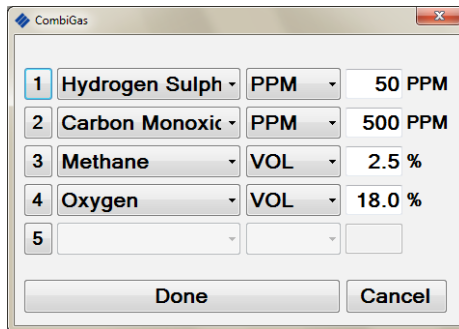

Fig. 3-13 CombiGas Contents
Fig. 3-13 displays the contents of an example CombiGas template.
- The template gases / values, illustrated in Fig. 3-13, can be compared and must be compatible with the corresponding gases / values on the gas cylinder label.